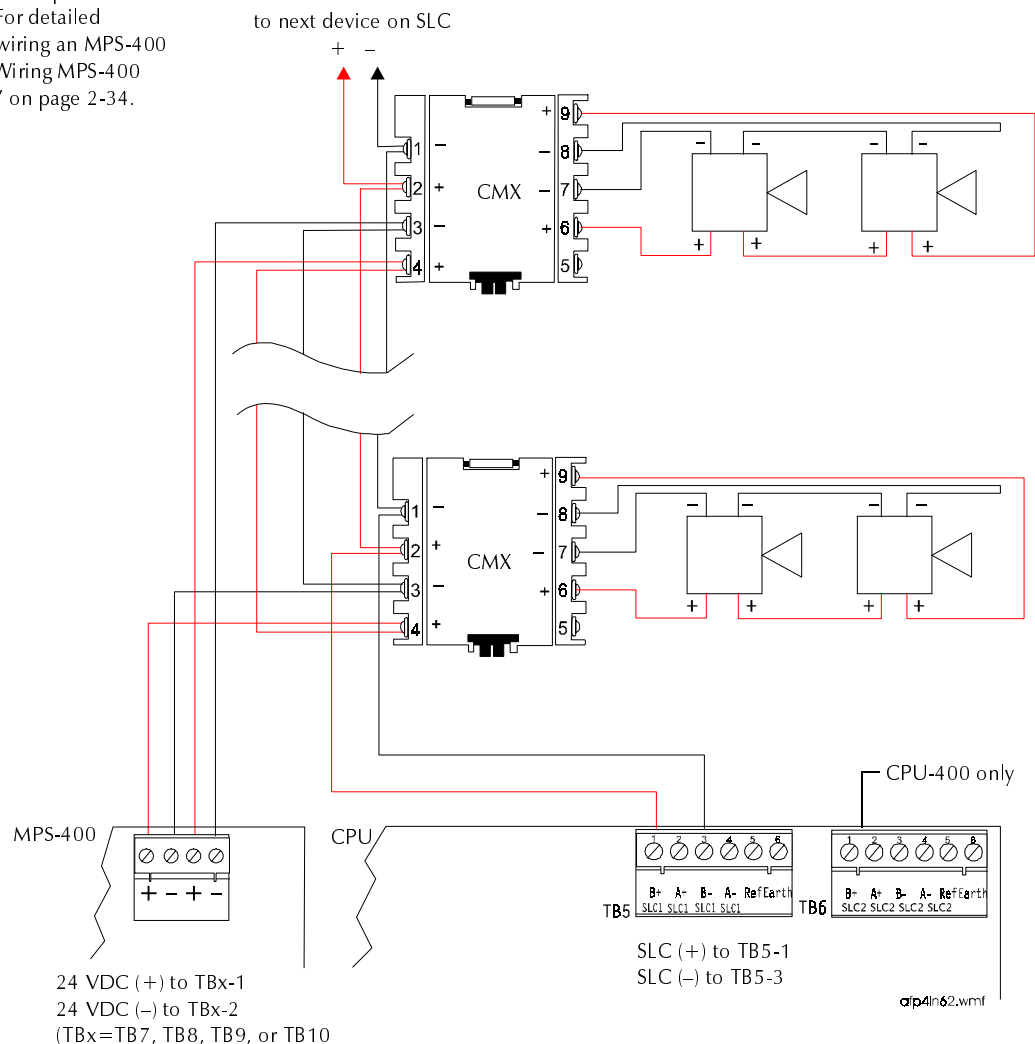
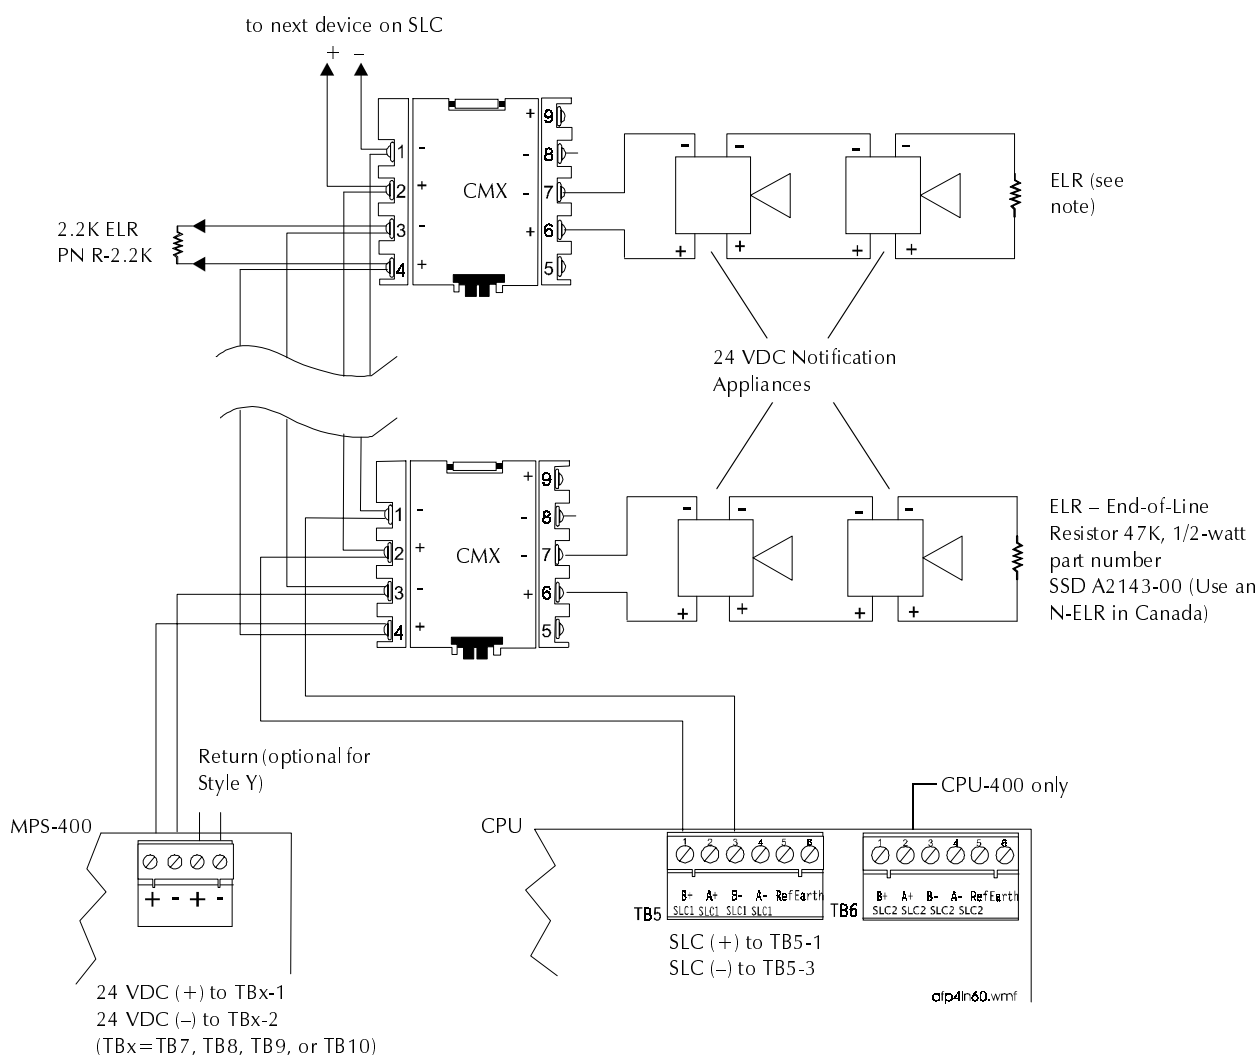

Figure 2-77 NFPA Style Z Notification Appliance Circuit (Method 1)
Figure 2-78 NFPA Style Z Notification Appliance Circuit (Method 2)
Method 2 – An alternate power arrangement where you power the CMX (terminals 3 and 4) from one of the NACs on the MPS-400.	Figure 2-78
Figure 2-77 shows an NFPA Style Z NAC with an MPS-400 NAC supplying 24 VDC power to a CMX module. In this circuit, no external ELR is required. When an MPS-400 NAC supplies power to CMX modules:
2. Connect 24 VDC power from an MPS-400 NAC (TB7-TB10) to CMX terminals 3 and 4 (Figure 2-77).
Figure 2-78 shows a second method of powering a CMX from an MPS-400 NAC. (See Figure 2-77 on page 2-58 for the first method.) The NAC is supervised and power-limited. When an MPS-400 NAC supplies power to CMX modules:
3. Terminate the power feed to the CMX module with a 2.2K ELR (PN R-2.2K) or make the power feed a return to MPS-400 NAC terminals 3 and 4 (Figure 2-78).